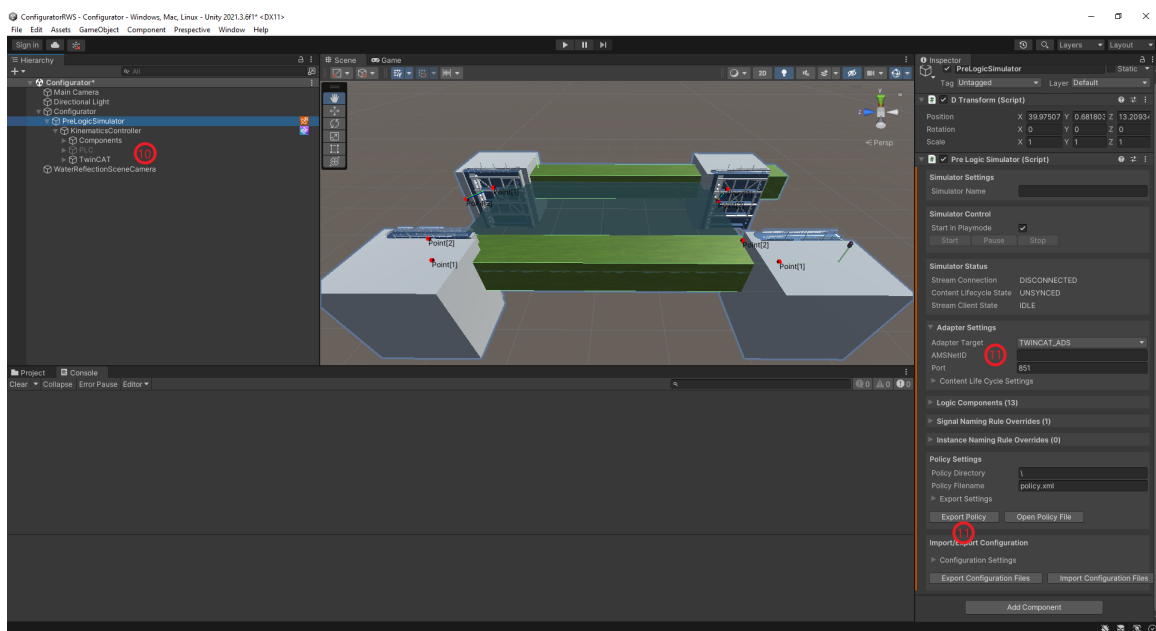

Figure 3.2: Configuration created
9. Once satisfied, click "*Create*" to generate the designed configuration in Unity. The configuration can be viewed in both the **Hierarchy** panel and the **Scene view** as seen in Figure 3.2.